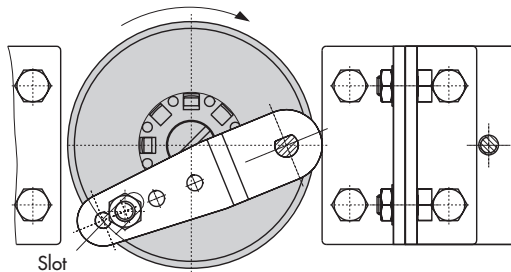

Fig. 9 · Attachment to rotary actuators
1. Place follower clamp (3) on the slotted actuator shaft or the adapter (5).
2. Place coupling wheel (4) with flat side facing the actuator on the follower clamp (3). Refer to Fig. 9 to align slot so that it matches the direction of rotation when the valve is in its closed position.
4. Screw the bottom pair of brackets (10.1) with the bends pointing either to the inside or to the outside (depending on the actuator size) to the actuator case. Position top pair of brackets (10) and screw tight.
5. Mount connecting plate (6) or pressure gauge bracket (7) with pressure gauges to the positioner, making sure both
6. Unscrew the standard follower pin (2) from the positioner's lever **M** (1). Use the metal follower pin (Ø5) included in the mounting kit and screw tight into the bore for pin position **90°**.
7. Place positioner on the top pair of brackets (10) and screw tight. Considering the actuator's direction of rotation, adjust lever (1) so that it engages in the slot of the coupling wheel (4) with its follower pin (see Fig. 9). It must be guaranteed that the lever (1) is parallel to the long side of the positioner when the actuator is at half its angle of rotation.